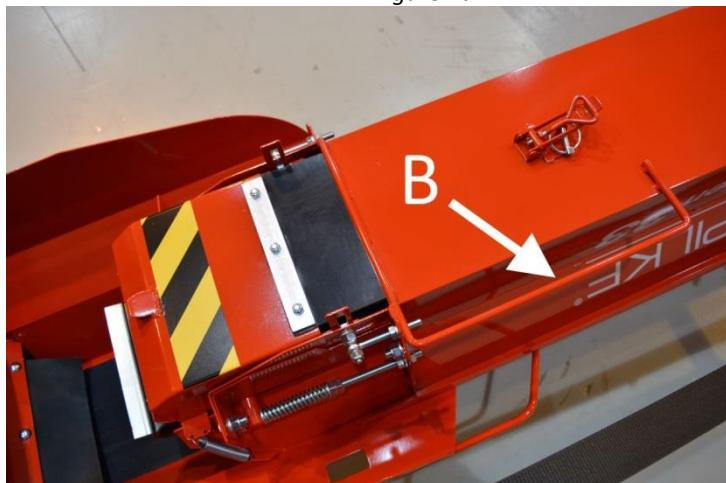

Figure 4b.
- Turn the upper section of the conveyor into the operating position using handle B (Figure 4b).